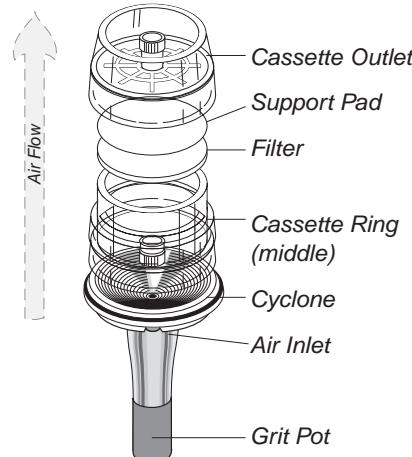

Figure 1
2. Select a filter and support pad as specified in the sampling method. Insert cassette ring (middle) section into cassette outlet (see Figure 1).